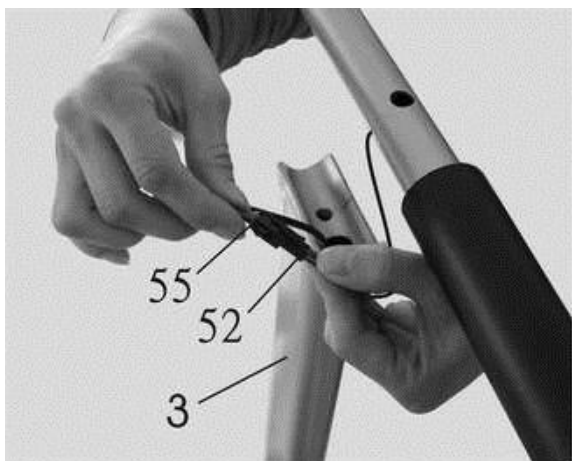

Figure 4a
Connect the Sensor wire I (55) from the Right handlebar support (3) to the Sensor wire II (52) from the Front handlebar (4). (See figure 4a).